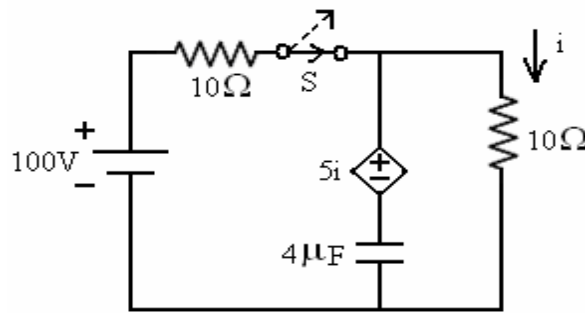

Figure. 1
- 1.a) For the circuit shown below Figure. 1, find the current equation when switch S is opened at  $t = 0$ .